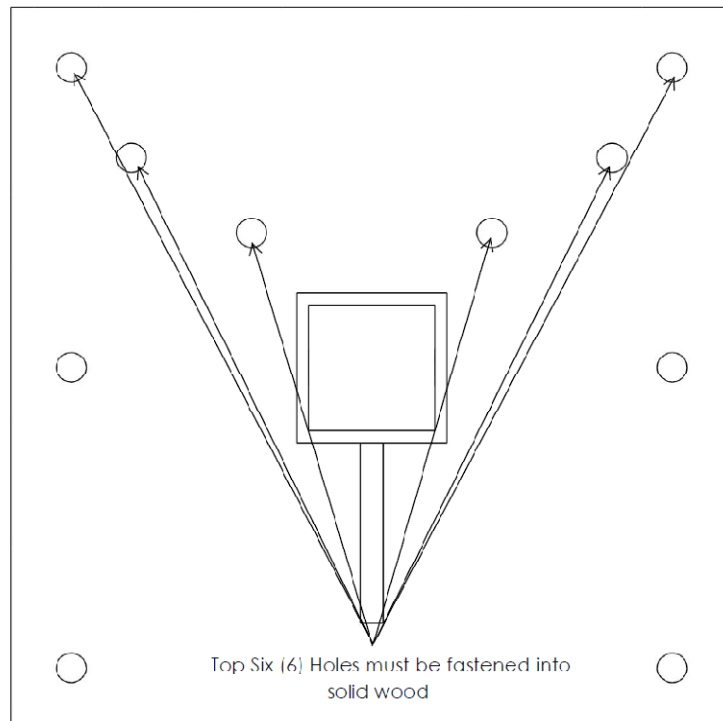

Fig 2
Mounting plate (Fig1.1) is affixed to desired surface using **Min. 2" wood screws** ensuring that the screws placed in the **Top Six (6) holes** on the mounting plate (Fig 2) are fastened into solid wood. Failure to fasten these screws into solid wood will weaken the system and no longer meets requirements.